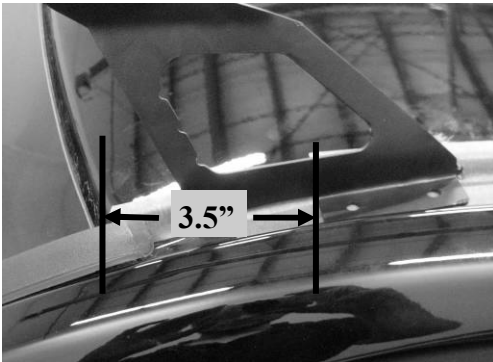

Figure 1
7. Place tape in drip rail where bracket will be mounted and mark drill holes with a marker. See **Figure 1** for bracket mounting location.